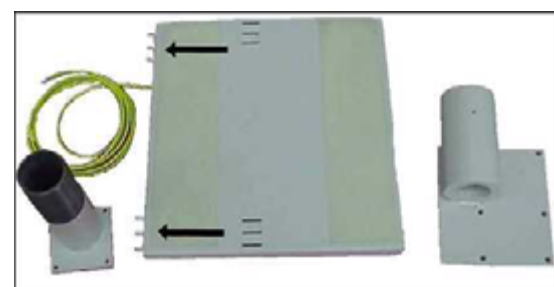

Fig. 72: Endo shelf installation
- Check the grounding bolts and if necessary tighten these (see arrows) (Fig. 72 / p. 64).